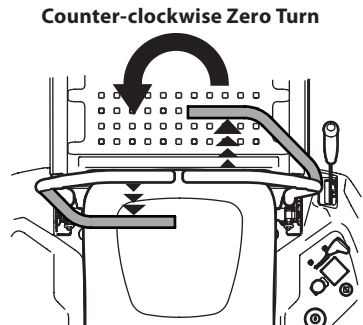

Figure 29
3. To turn counter-clockwise, move the lapbar right drive control lever forward while simultaneously moving the left lapbar drive control lever rearward. See Figure 29.